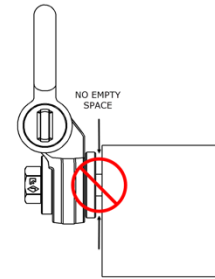

Fig 3
- Drill and tap the workpiece so that the hoist ring bolt is installed perpendicular to the surface of the workpiece. Countersink the tapped hole to prevent “swelling” of the top thread when the hoist ring bolt is torqued. The workpiece surface must be flat, providing complete contact for the hoist ring bearing surface. The tapped hole must be deep enough to ensure the hoist ring bolt is fully engaged and there is no empty space between the hoist ring bearing surface and the workpiece surface (Fig.3) **otherwise the color of the indicator will never change to black, indicating there is no preload in the bolt.**